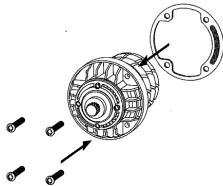

Fig.26
13. Push the four cartridge fixing screws through the face of the cartridge and attach the gasket to the screws ensuring that it is correctly positioned (Fig 26).